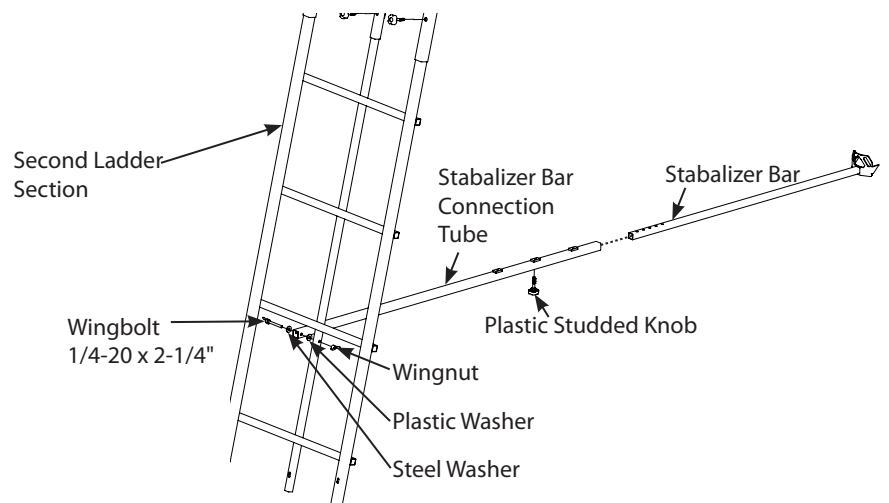

Figure 12
13. Attach the stabilizer bar extension tube (14163) to the bottom middle ladder (second ladder section)(14235) using (1) wing screw, wing nut, steel washer, and plastic washer. **SEE FIGURE 12.**
14. Slide the stabilizer bar (14162) into the extension tube (14163) and attach the two pieces together using (1) provided plastic studded knob. The knob must enter through the bottom and out through the top side threading through the weldnut. **SEE FIGURE 12.**